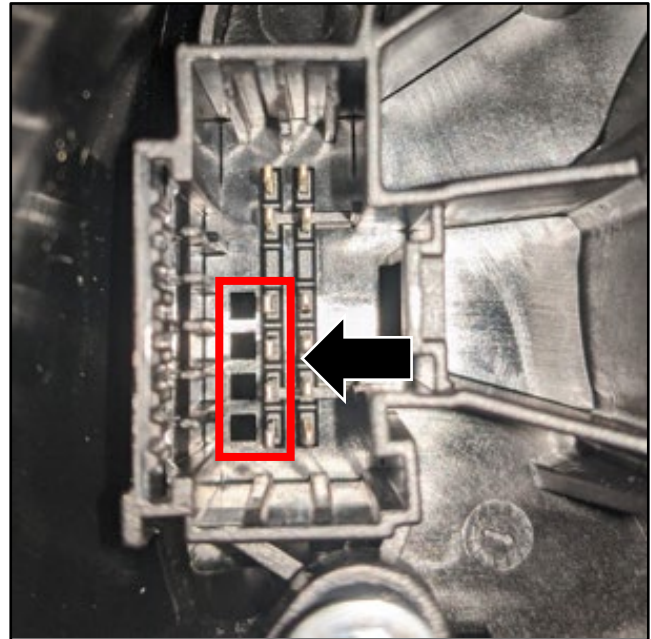

Figure 1
3. Identify the connector terminal numbers for the IP Harness to SCCM connector: 8, 9, 10 & 11 (refer to Figure 1).